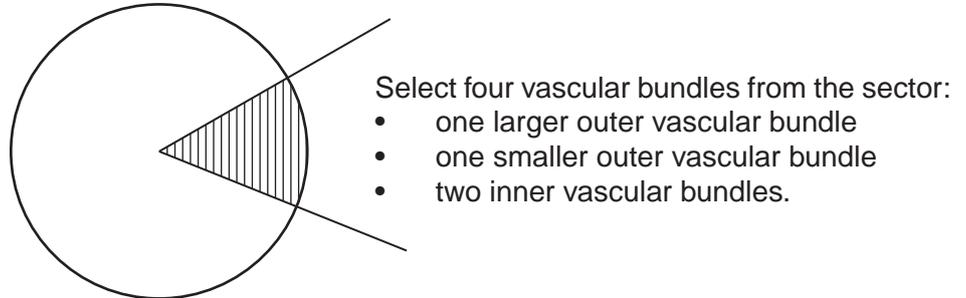

Fig. 2.1
- (a) (i) Draw a large plan diagram of the part of the specimen on **J1** indicated by the shaded sector in Fig. 2.1. Your plan diagram should include: